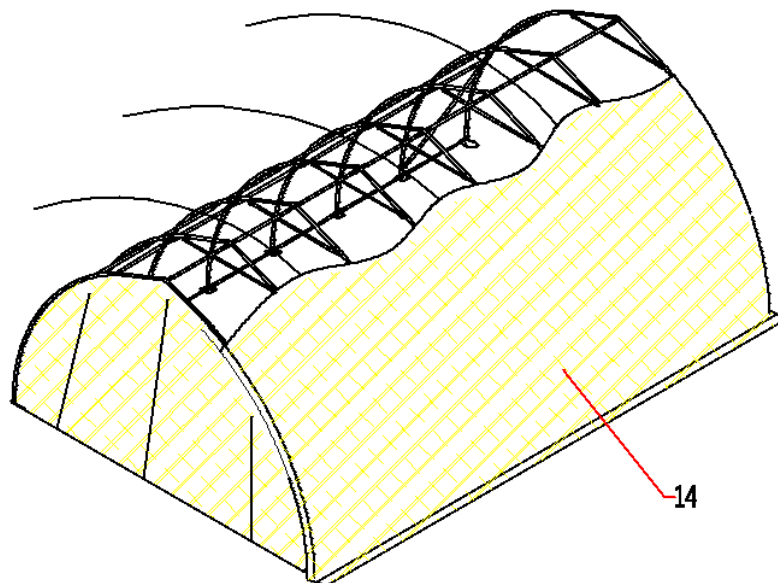

Figure 8
- With a few people to pull the cover (#14) over the top of the structure, a couple of people standing inside on ladders to push upwards will help to move the cover smooth without any damage (Figure 8).